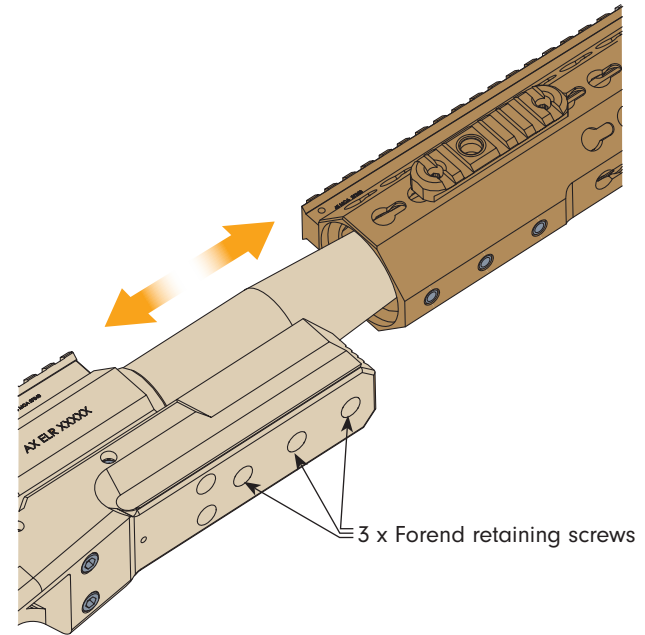

Fig 3-11
- While supporting the forend, use the 4 mm hex key to loosen the captive forend retaining screws (see Fig 3-11).